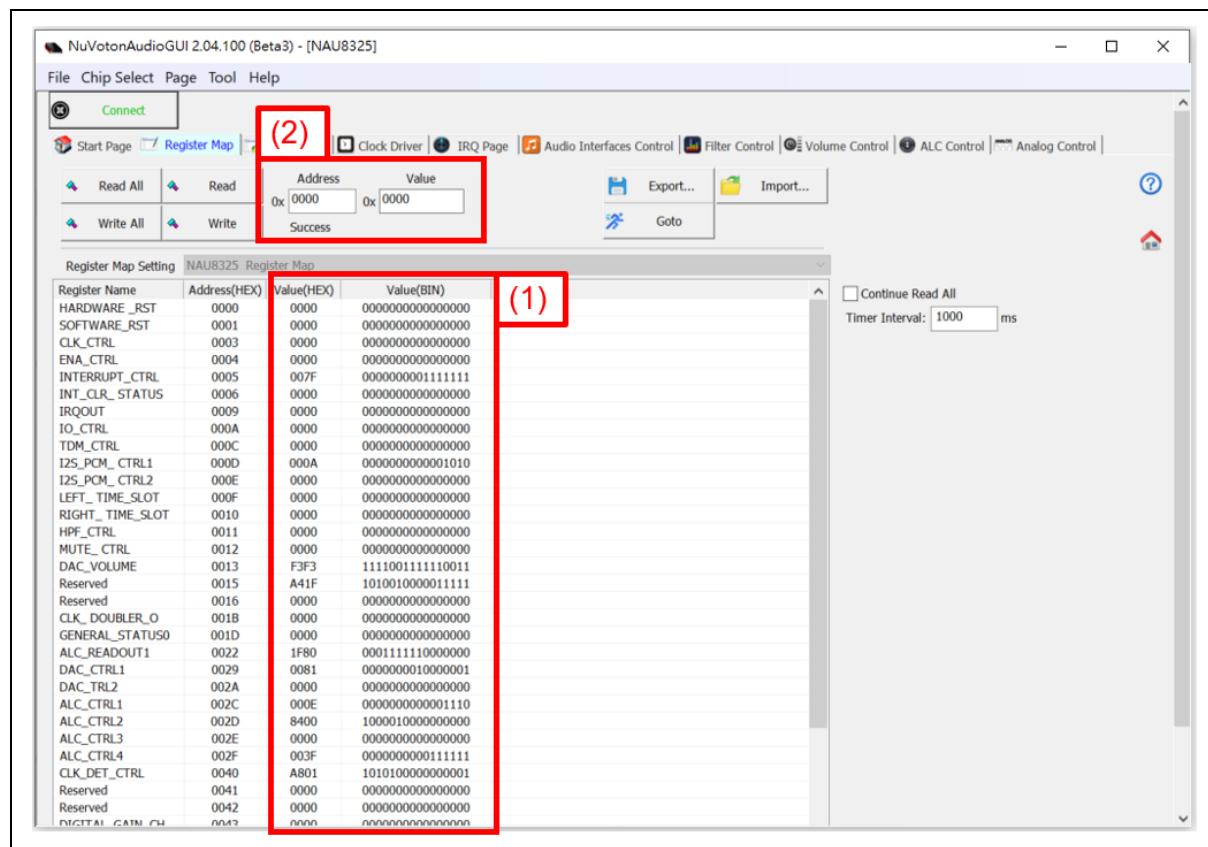

Figure 3-9 Register Map Page on NuvotonAudioGUI
- Users can directly key in desired register values into the "Value" field next to the corresponding address, as shown in Figure 3-9. ("Value" has hexadecimal and binary column respectively, just select one to modify.)
- If users want to read the specified address value, enter the address value in the "Address" field, as shown in Figure 3-9. After clicking the [Read] button on the left, the address value will be displayed in the "Value" field. If users want to modify the specified address value, enter the desired address and corresponding value in the "Address" and "Value" fields respectively, and click the [Write] button on the left to complete the modification.